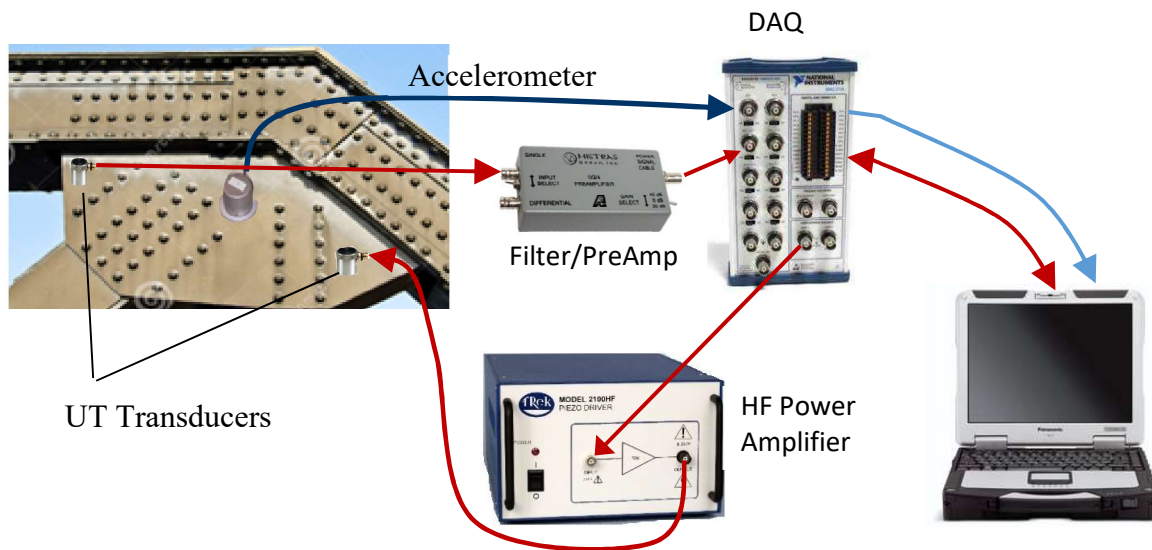

Fig.2.1. FN-SCAN[®] system components and connection diagram
FN-SCAN[®] connection diagram is shown in the Fig.2.1
2. Connect the system according to the diagram in Fig.2.1.